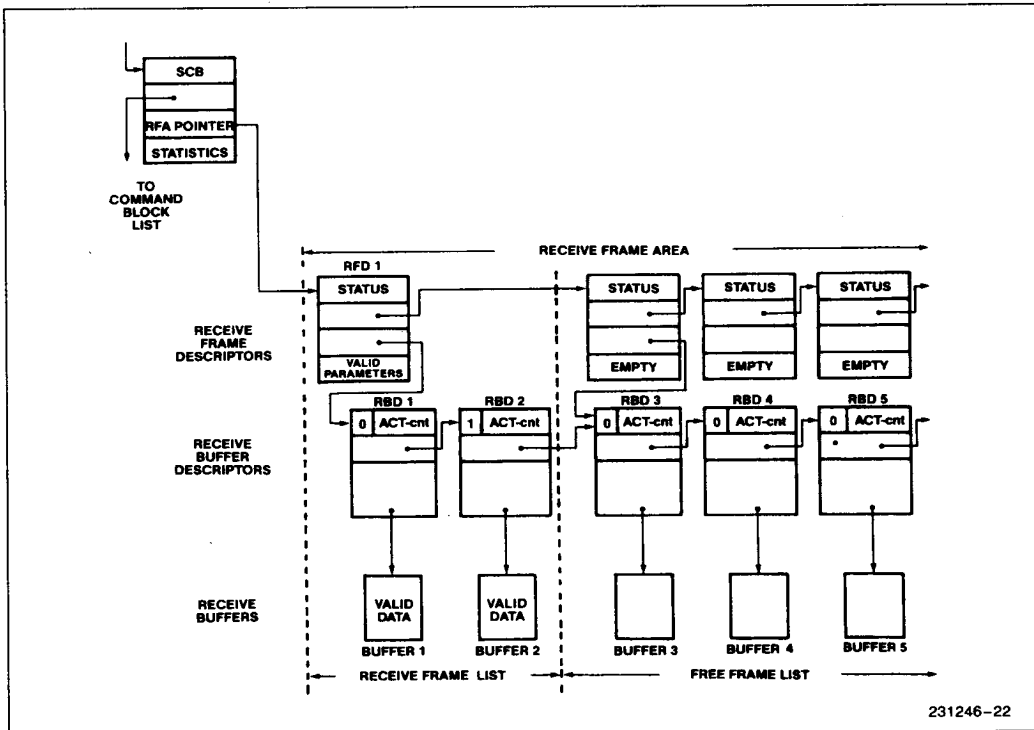

Figure 21. The Receive Frame Area
The Receive Frame Area, RFA, is prepared by the host CPU, data is placed into the RFA by the 82586 as frames are received. RFA consists of a list of Receive Frame Descriptors (FD), each of which is associated with a frame. RFA-OFFSET field of SCB points to the first FD of the chain; the last FD is identified by the End-of-Listing flag (EL). See Figure 21.